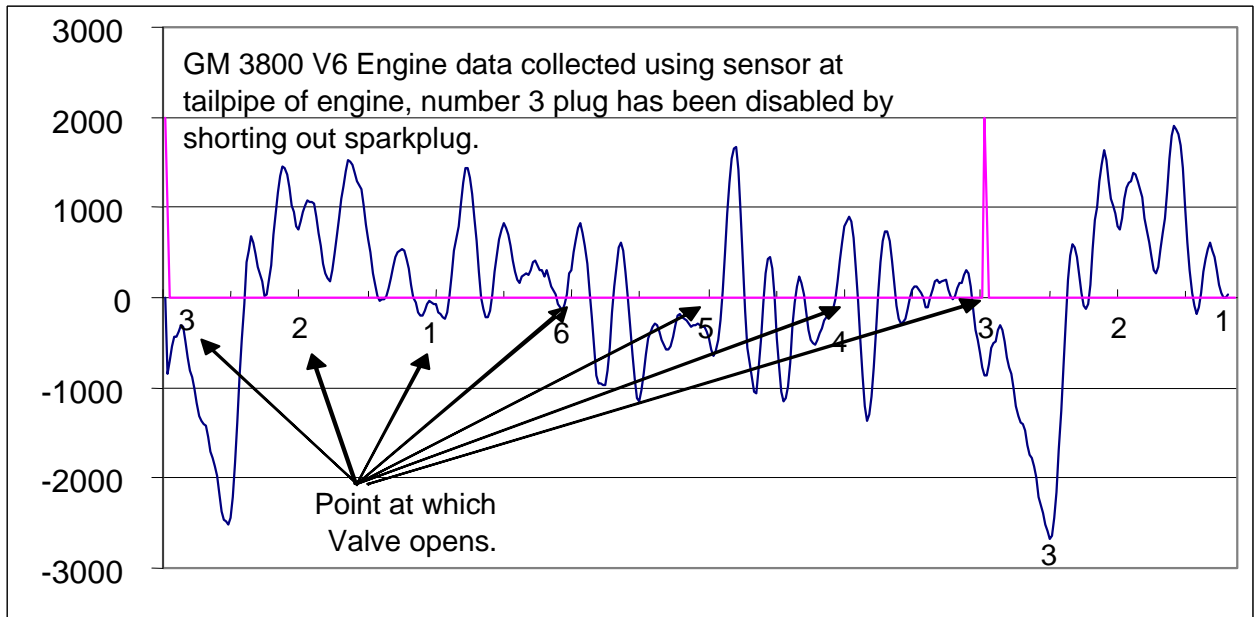

Figure 14
*The sensor signal is delayed in relation to the engine firing order. In other words, the sensor signal has a delay in the exhaust of 1 cylinder for a 4 cylinder engine and 2 cylinders for a 6 or 8 cylinder engines. It is important to note that the number 1 plug firing is the event to which we are triggering the display. The cylinder must rotate 180 degrees to begin the exhaust phase of the cycle...this accounts for the offset we see in our display. In the pattern in Figure 14 we see the timing spike at the point the number 1 plug fires. **The result of what happens in the cylinder is not seen until a 180 degree rotation of the crankshaft has taken place and the opening of the exhaust valve occurs. This is seen as an offset to the right of trigger (plug #1) for exhaust readings and as an offset to the left for trigger (plug #1) for vacuum readings.***
For example in Figure 14 if the engine firing order is 1,6,5,4,3,2 and the trigger is on cylinder #1, then the scope pattern as seen through the exhaust is read as 3,2,1,6,5,4 after taking into account the required cylinder offset.
It is important to note that changes in timing advance, pipe length and effects of tuned exhaust will have an impact on waveform outputs. Some waveforms will be almost perfect but others will show the effect of a tuned exhaust system as seen in Figure 14. Engine problems will always cause a fluctuation of the waveform that extends above or below the average of the other cylinders. This is where comparative analysis of cylinders becomes important. In general the more symmetrical the waveform and distribution above and below the zero reference line, the better the condition of the engine.
Conditions caused by lack of fuel or lean burn will cause a drop-out in the waveform. Problems resulting in excess fuel (dirty injectors, poor combustion, dirty plugs, plug wire problems) will show up as a drop-out in the waveform followed by an increase in waveform above zero as the engine works to compensate for the excess fuel as it is burned in the manifold (as shown in Figure 14). This is the work of the computer and oxygen sensor in today's engines.